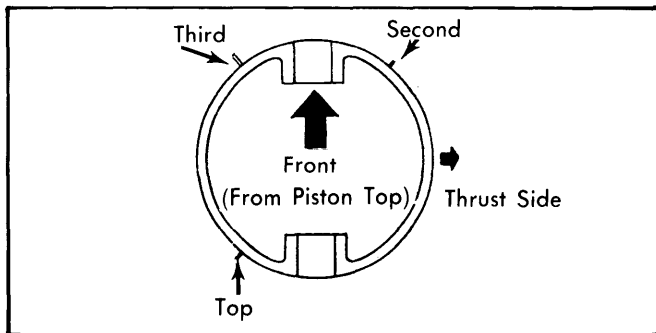

Fig. 6 Installed Position of Piston Rings
**Installation** – Install piston rings on piston with ring gaps spaced and positioned as shown in Fig. 6. Code letter and number on ring outside surface should face up. Lubricate piston, crankshaft and cylinder. Using suitable piston ring compressor, insert pistons in cylinders, making sure that notch on piston top is toward front of engine. Install connecting rod bearing caps and tighten bolts.